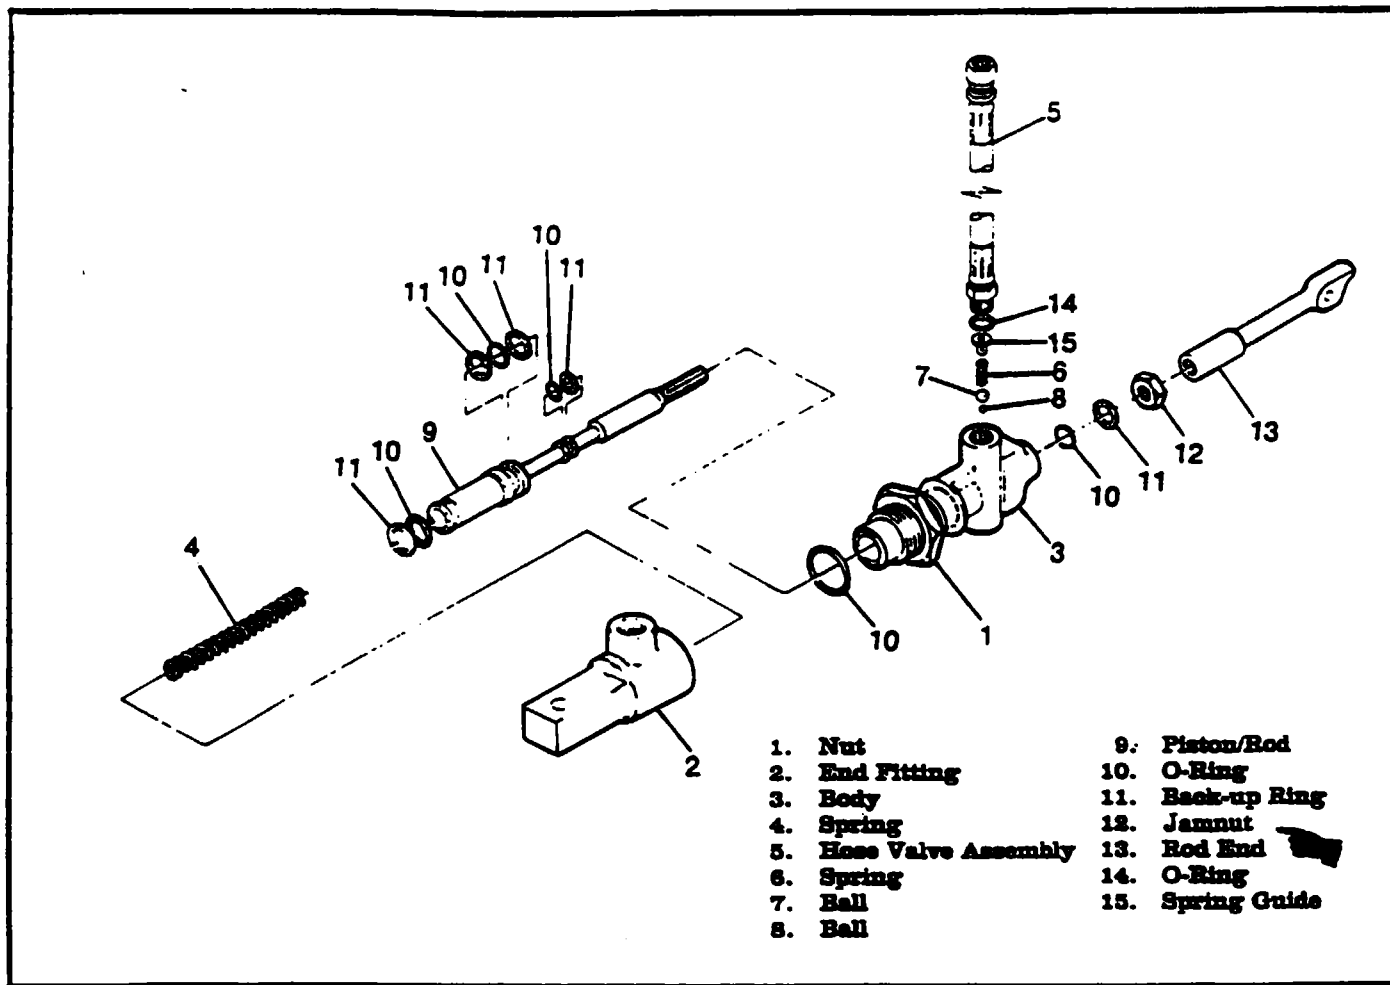

Figure 5-16. Main Landing Gear Downlock Actuator
- 5-71. DISASSEMBLY.** (Refer to figure 5-16).
- Loosen nut (1) and unscrew end fitting (2) from body (3). Spring (4) can also be removed.
- Remove hose valve assembly (5), O-ring (14), spring guide (15), spring (6), ball (7) and ball (8) from body (3).
- Remove piston/rod (9) from body.
- Remove and discard all packings and back-up rings from end fitting (2), body (3) and piston/rod (9).